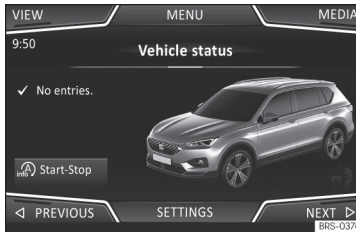

Fig. 49 Easy Connect: Vehicle Menu.
- **OR:** Press the infotainment button  to open the **Vehicle** menu **»» Fig. 49.**